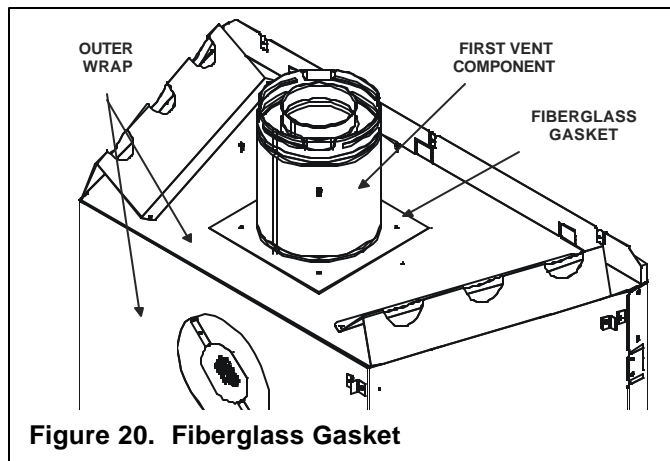

Figure 20. Fiberglass Gasket
- Make sure that the fiberglass gasket supplied in the manual bag seals between the first 8 inch (203mm) vent component and the outer fireplace wrap. Using 2 self-tapping screws from the manual bag secure that gasket to the outer wrap (see Figure 20).